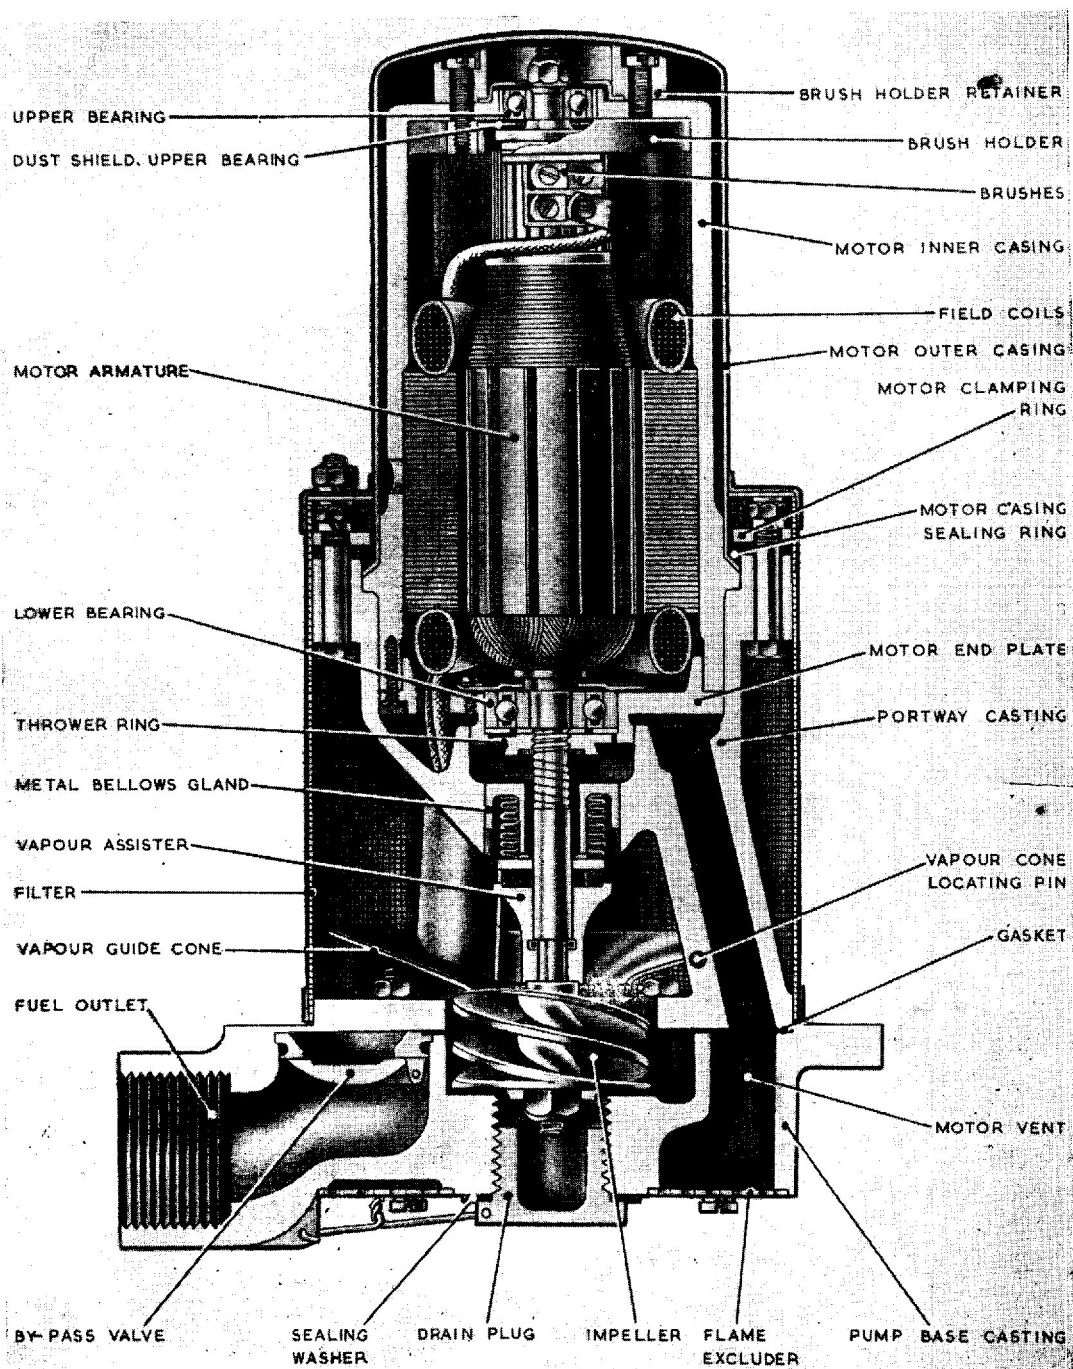

Fig. 2. Sectional view SPE 403, Mk. I fuel pump
2. A sectioned view of the pump is shown (fig. 2), and consists mainly of a driving
4. The motor (*fig. 2*) is a totally enclosed, compound wound, two pole machine, with a speed of $7,500 \pm 50$ r.p.m. The motor